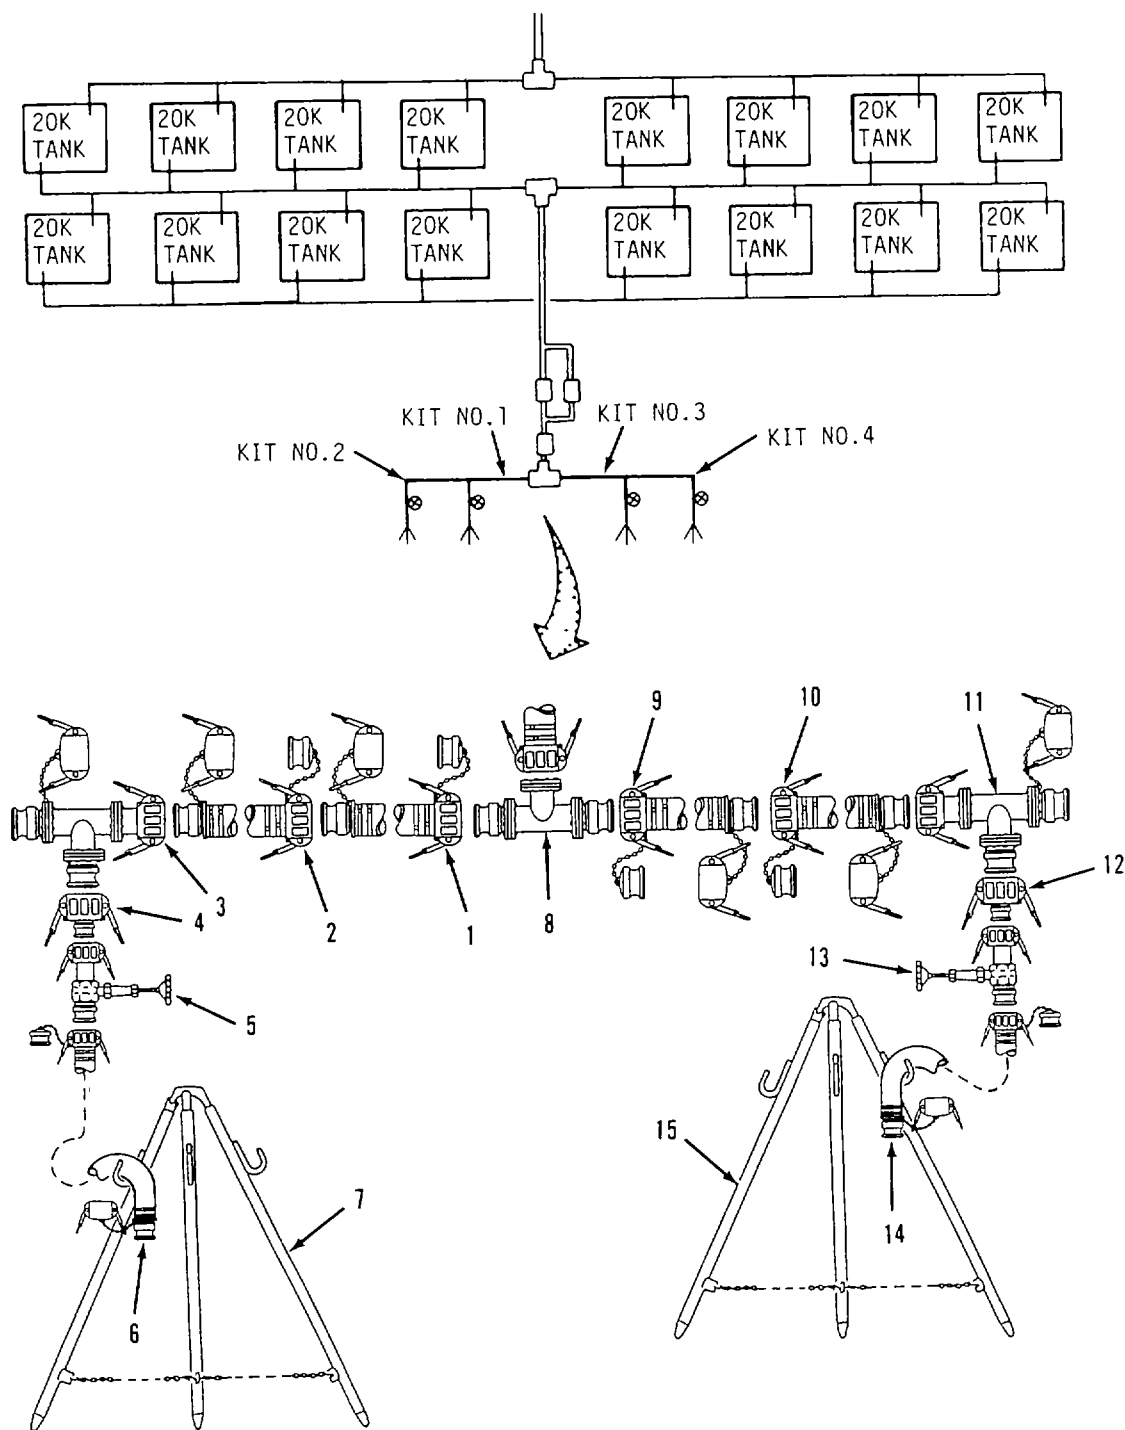

Figure 2-19. 2-Inch Hose Connection K it Assembly
- I. Assemble 2-Inch Hose Connection Kits. Refer to figure 2-19.